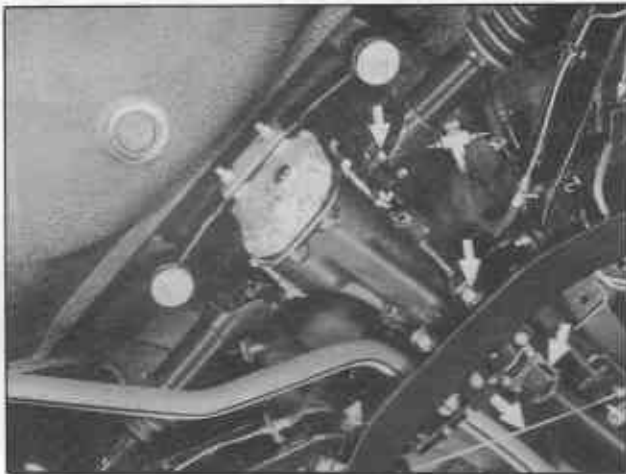

Fig. PD-4 Removing hand brake rear cable, propeller shaft and drive shaft
1. Remove the hand brake rear cable, propeller shaft and drive shaft at the respective positions shown by the arrows in the Figure PD-4.